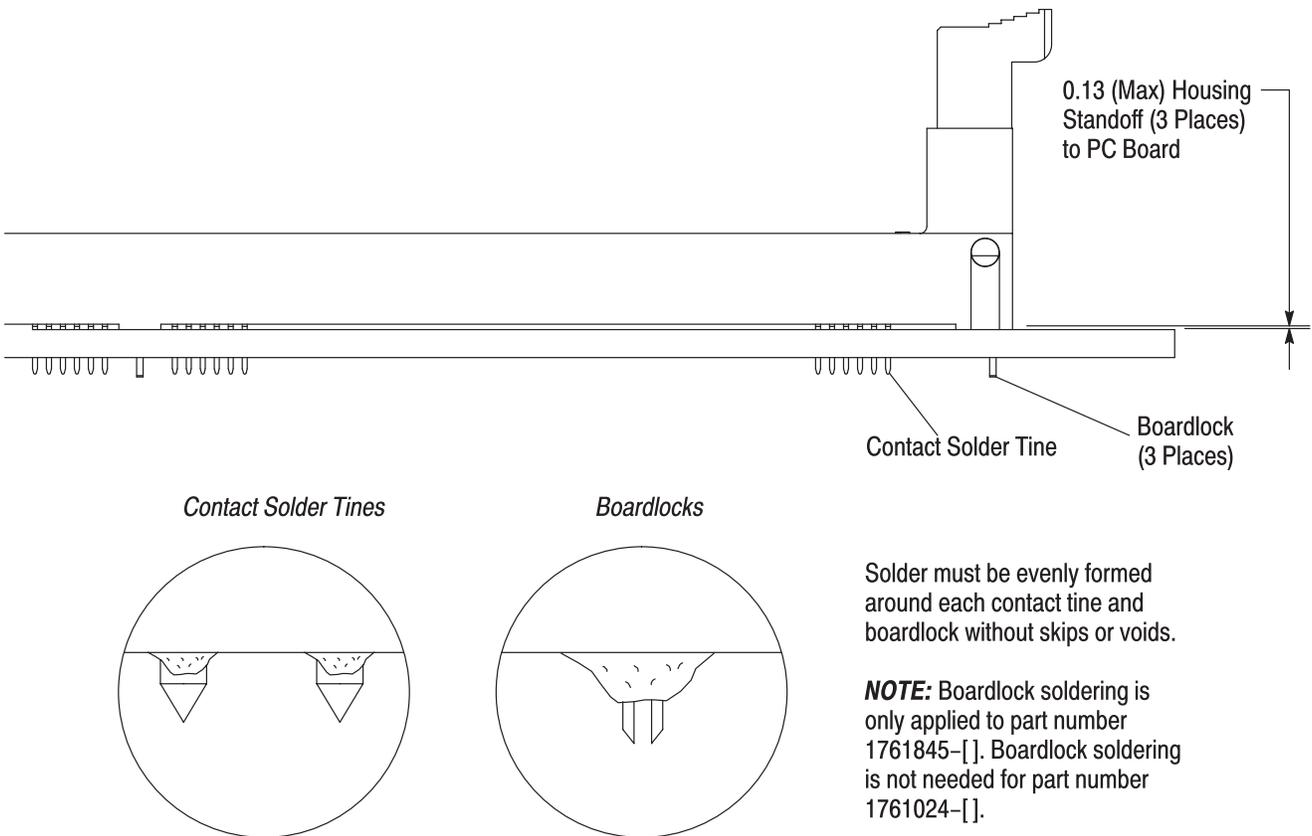

Figure 7
- Added text to Figure 7
All solder joints should conform to those specified in Workmanship Specification 101–21 and all other requirements specified in this document. The housing standoffs must be seated on the pc board not exceeding the dimension shown in Figure 7.